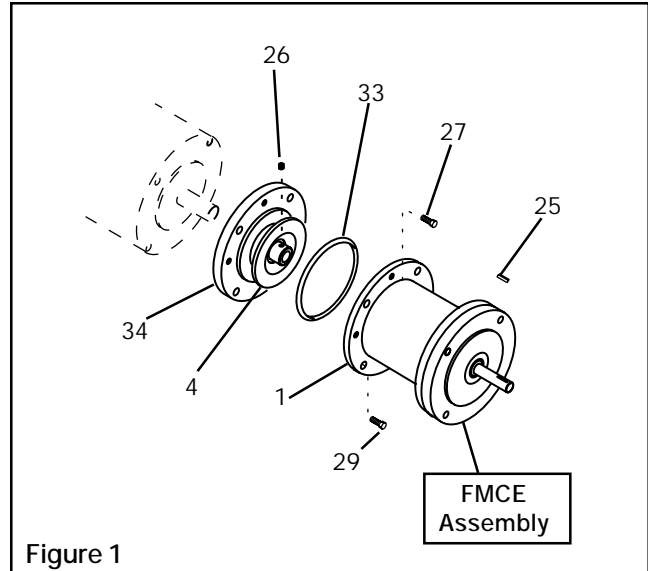

Figure 1
1. Remove the eight Hex. Head Cap Screws (Item 27); then, separate the Female Pilot (Item 34) and Drive Disc (Item 4) from the FMCE Assembly (See Figure 1).
3. Slide the Female Pilot (Item 34) and the Drive Disc (Item 4) onto the motor shaft (See Figure 1).
4. Tighten the Set Screw (Item 26) to lock the Drive Disc (Item 4) onto the motor shaft (See Figure 1).
5. Coat the O-ring Seal (Item 33) and the seal contact surface with a film of O-ring lubricant, then wipe off any excess lubricant (See Figure 1).
6. Place the O-ring Seal (Item 33) onto the Female Pilot O-ring diameter (Item 34) (See Figure 1).
7. Slide the FMCE Assembly onto the Female Pilot (Item 34) and the Drive Disc (Item 4) (See Figure 1).
8. Using four Nexen supplied 0.375-16 x 1.5" Hex. Head Cap Screws (Item 29), secure the Female Pilot, Drive Disc, and Housing (Item 1) to the motor (See Figure 1).
10. Using four Nexen supplied 10-24 x 0.75" Hex. Head Cap Screws (Item 27), secure the FMCE to the Female Pilot and Drive Disc (See Figure 1).